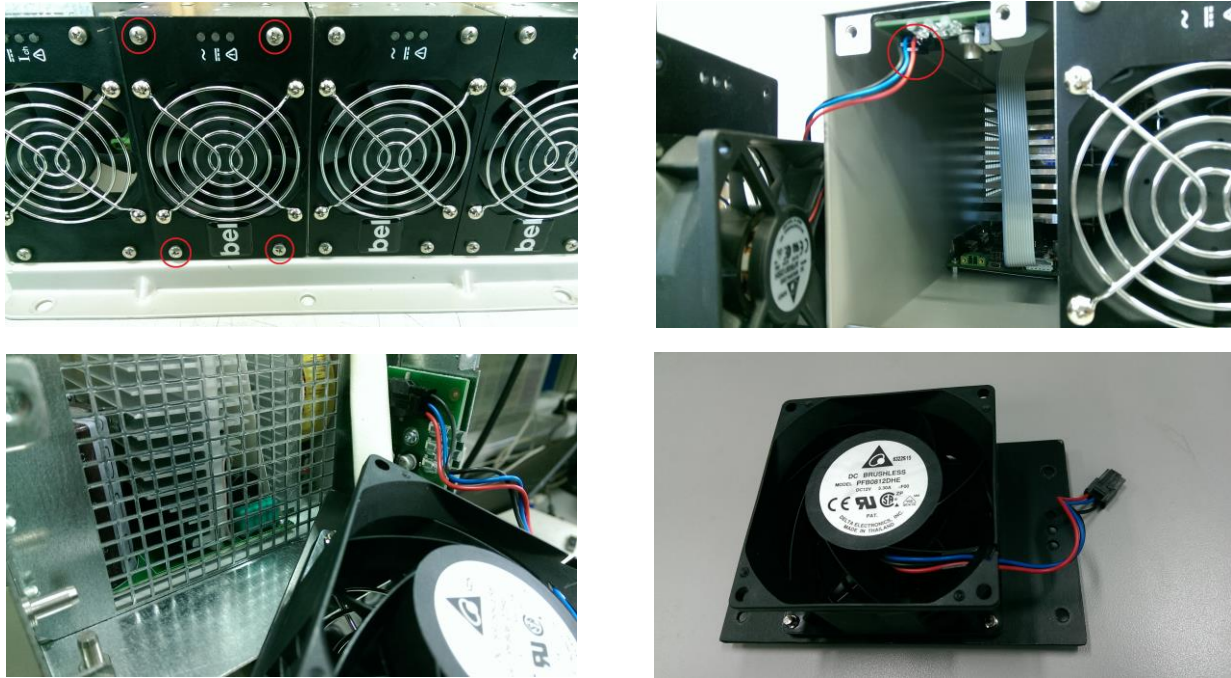

Figure 1: Fan replacement procedure
- 1) Turn-off the whole device and by screwdriver PH2 simply remove four outer screws (signed by red circle - not those holding the ventilation grill) on the front panel, which contains the failed fan and pull the panel out from the chassis (see Fig. 1).